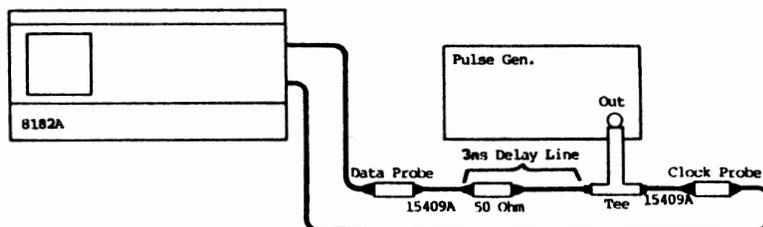

Figure 4-3 Skew Test Setup
9. Connect equipment as shown in figure 4-3 and press RUN. (Start with Connector 0 Channel 0)